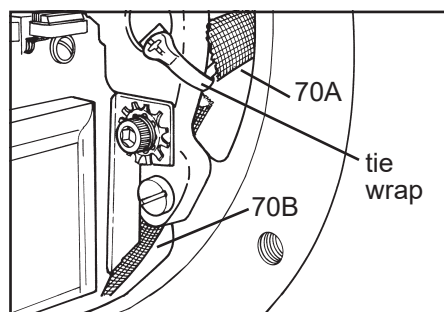

Figure 3
11. To protect wire insulation, slide fiberglass tubing (70A) over underside of support plate lead wires and into endplate lead wire outlet hole until it touches the elbow. (See *Figure 3*.)
12. Mount support plate assembly (142) to endplate using screws and conical spring washers (142S and 142W). Flat washer (142X) is installed under the conical spring washer. Torque these screws (142S) to 50 lb-in nominal. Be sure the assembly is mounted with the solenoid plunger above the solenoid frame on horizontally installed brakes. (See *Installation*, Note 1.)
13. Using tie wrap provided, install tie wrap so that wires are held away from pressure plate as shown in *Figure 3*.